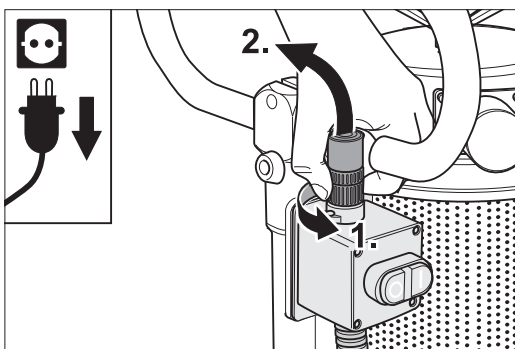

Fig. 43 Loosen the ring nut and remove the cable plug.
- 5 Remove the sensor cable plug on the on/off switch by turning the ring nut and pull the cable plug off (Fig. 43).